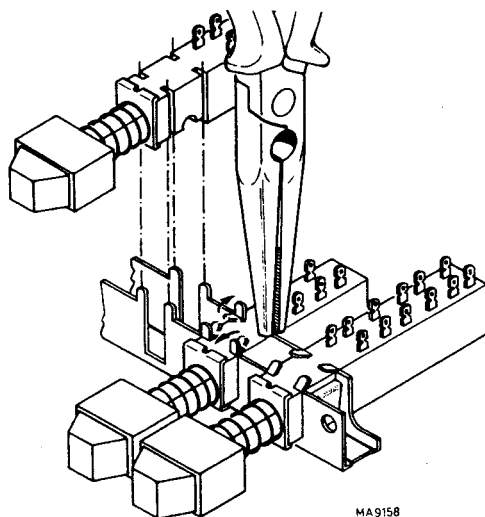

Fig.5.5. Replacing a switch-segment
- Straighten the 4 retaining lugs of the relevant switch as shown in Fig. 5.5.